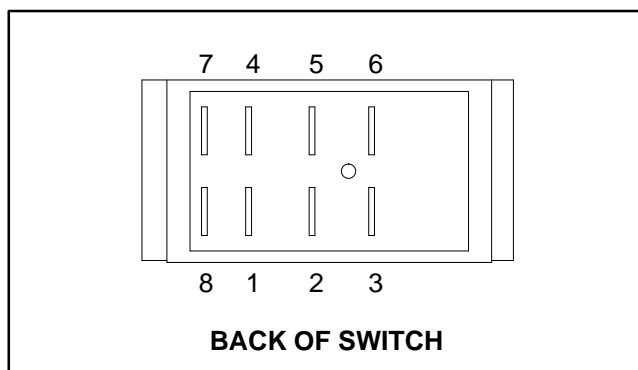

Figure 13
3. The switch terminals are marked as shown (Fig. 13). The circuit logic of the sonic boom switch is shown in the chart to the right. With the use of a multimeter (ohms setting), test the switch functions for continuity between the various terminals for each switch position. Replace switch if testing identifies a faulty switch.